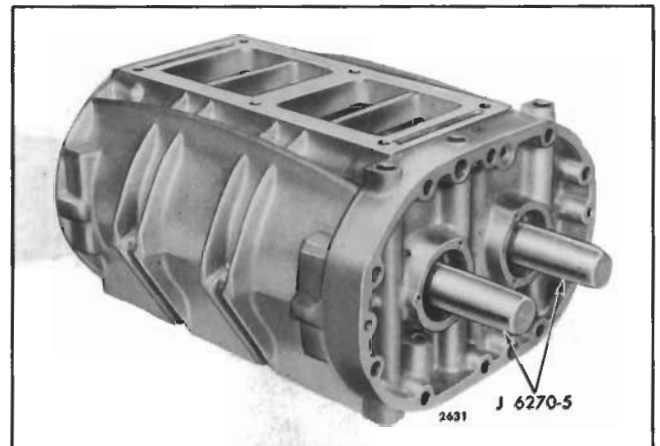

Fig. 13 - Assembling Blower Rotors in Housing and Front End Plate with Oil Seal Pilots
2. Refer to Fig. 13 and install the blower rotors in the blower housing and end plate as follows: